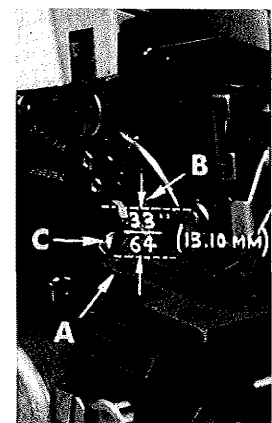

Fig. 3
With throat plate (A, Fig. 3) assembled in position, needle should center in the front end of needle slot. When needle is at high position, needle point should be set  $33/64$  inch (13.10 mm) above throat plate (Fig. 3) for Styles 39500 QJ, QL, RP and SJ;  $1/2$  inch (12.70 mm) for Styles 39500 QN and SR; and  $15/32$  inch
(11.91 mm) for Styles 39500 QV, QX, RU, SX, TG and TY. To align needle or set the height above the throat plate, move needle driving arm (B, Fig. 3) by loosening clamp screw (C). After needle has been properly set, tighten clamp screw and remove throat plate.